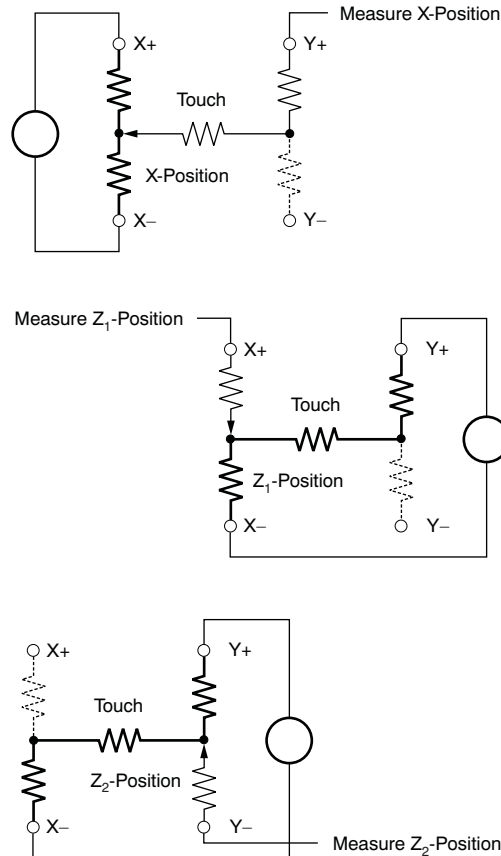

Figure 22. Pressure Measurement
Measuring touch pressure (Z) can also be done with the TSC2008. To determine pen or finger touch, the pressure of the *touch* must be determined. Generally, it is not necessary to have very high performance for this test; therefore, 8-bit resolution mode may be sufficient (however, data sheet calculations are shown using 12-bit resolution mode). There are several different ways of performing this measurement. The TSC2008 supports two methods. The first method requires knowing the X-plate resistance, the measurement of the X-Position, and two additional cross panel measurements (Z_2 and Z_1) of the touch screen (see Figure 22). Equation 1 calculates the touch resistance: